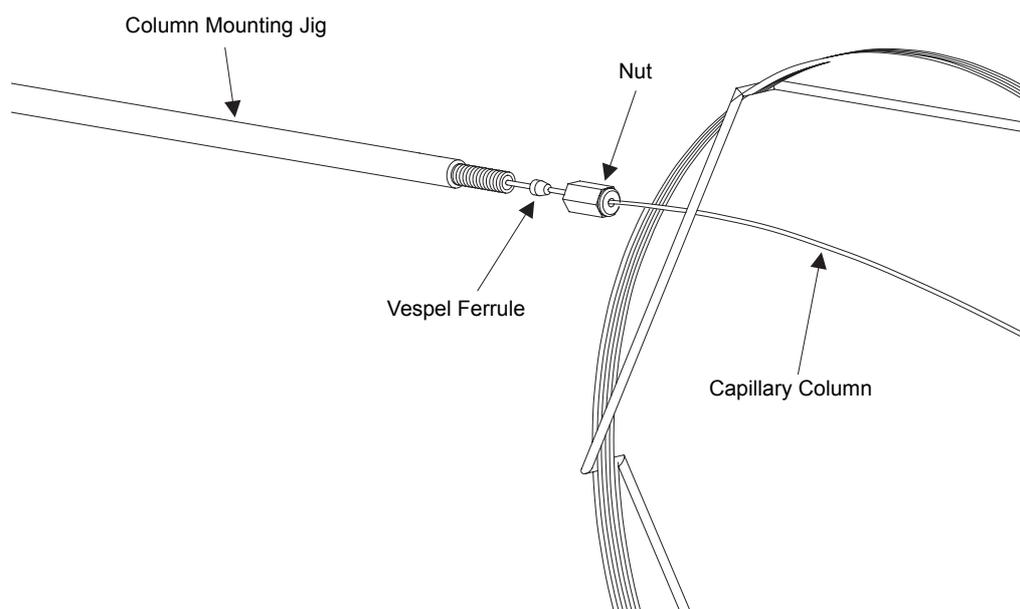

Figure 2.25 Using the Column Mounting Jig
- (1) Push the capillary column through the Vespel ferrule and nut. Refer to Figure 2.25 "Using the Column Mounting Jig".